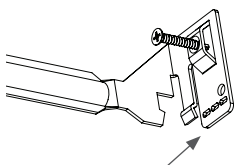

fig. 1 (optional)
- a. If ceiling thickness is 0.75 in (19.05 mm) or greater: Use pliers to break off the tabs at the end of both hanger bars (see fig. 1).